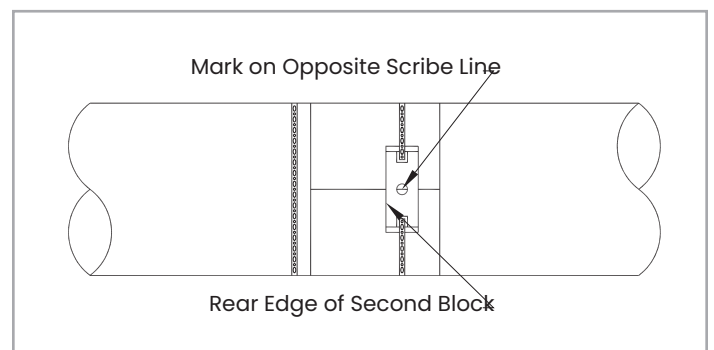

Figure 36: Line up rear edge of bracket with 180° scribe line
4. Line up the other edge of the CFG-PI holder bracket with the scribe line and tighten the chain or strap, as shown in Figure 36 below.